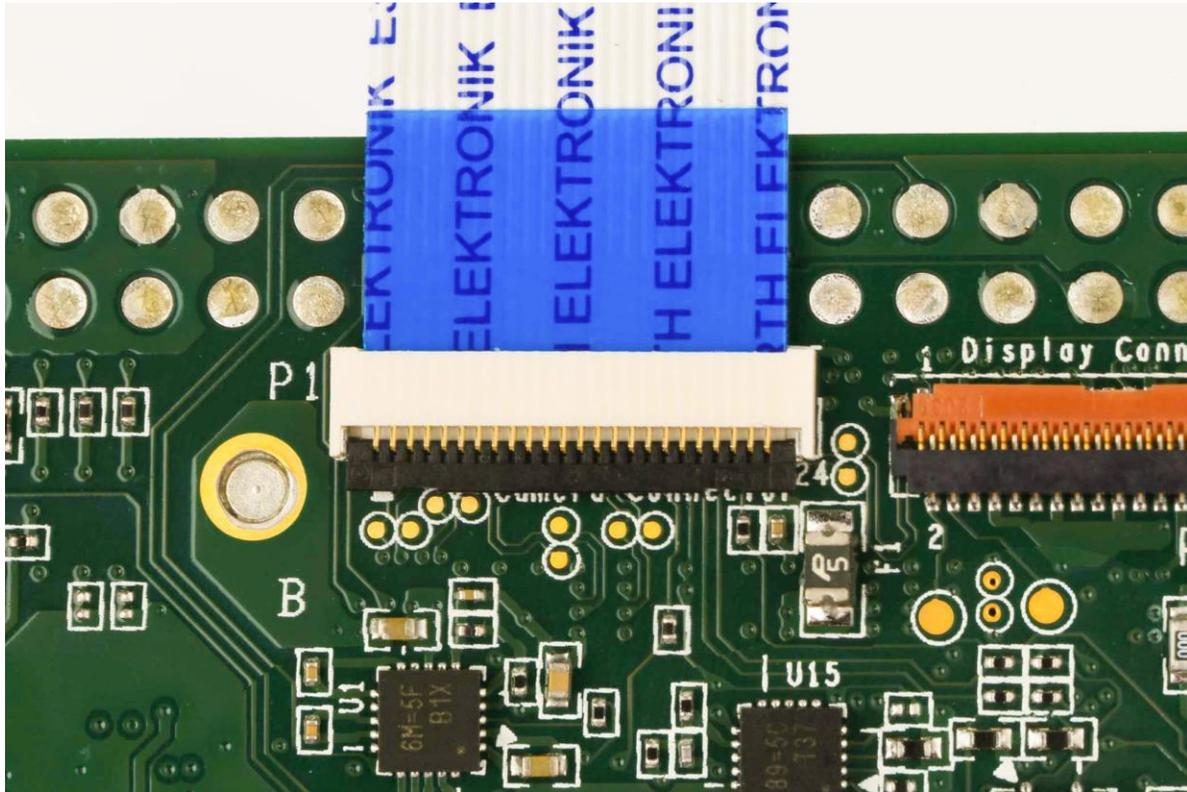

Figure 2. The camera cable inserted and the latch closed
- Slide the flex cable into the connector with the contact pins facing toward the board (the blue strip is facing away from the board), as shown in figure 2.